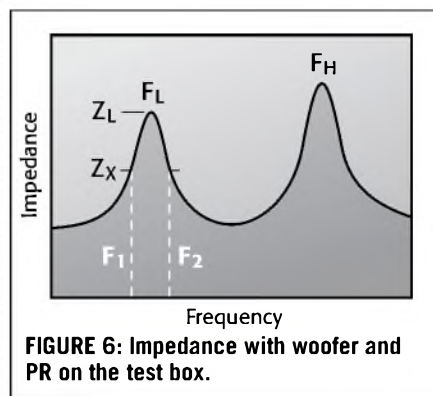

FIGURE 6: Impedance with woofer and PR on the test box.
Step 13: Find the frequency on each side of F_L where the impedance equals Z_X . These frequencies are labeled F_1 and F_2 (Fig. 6).